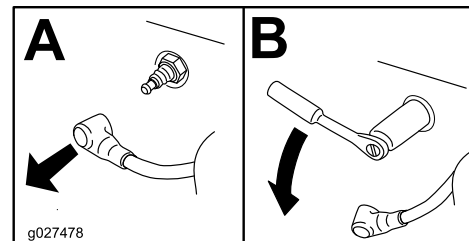

Figure 45
2. Remove the spark plug as shown in Figure 45.